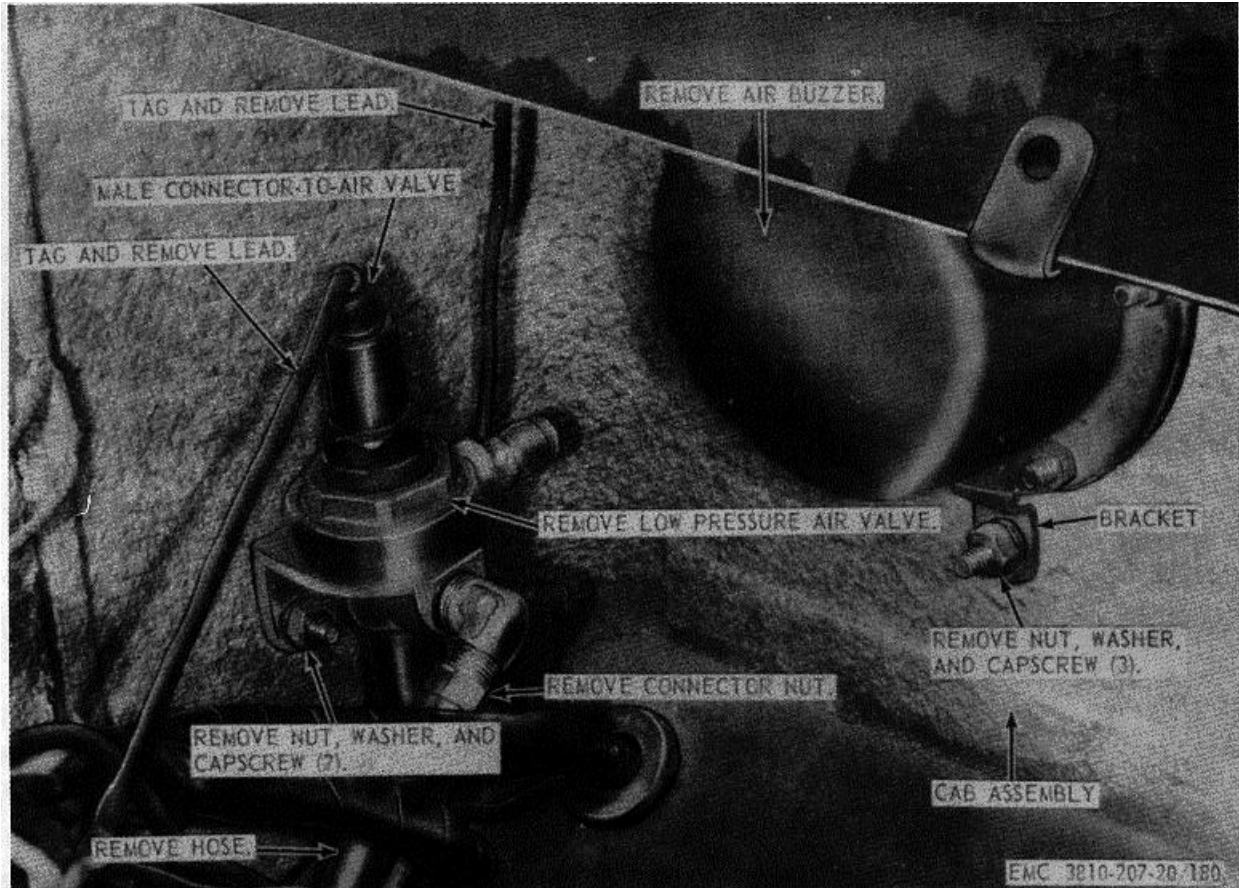

Figure 180. Air buzzer and low pressure valve, removal and installation.
a. *Removal.* Remove the air buzzer and low pressure valve as instructed on figure 180.
- (1) Clean all parts with an approved cleaning solvent.
- (2) Inspect the air buzzer for improper operation. Repair or replace an inoperative air buzzer.
- (3) Inspect the male connector for improper operation or damage. Replace an inoperative or damaged male connector as necessary.
- (4) Inspect the low pressure valve for improper operation. Replace or repair an inoperative low pressure valve.
- (5) Inspect all mounting hardware for stripped or damaged threads. Replace as necessary.
c. Installation. Install the low pressure valve and air buzzer as illustrated on figure 180.